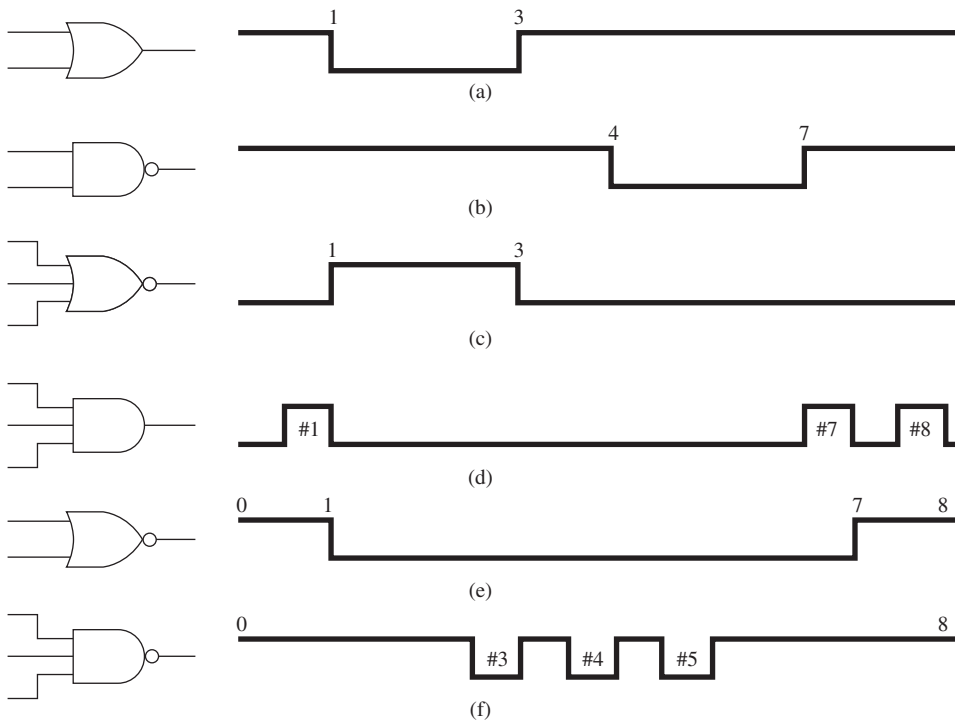

Figure P38
38. Using the Johnson shift counter outputs from Figure 43, label the inputs to the logic gates shown in Figure P38 so that they will produce the indicated output.